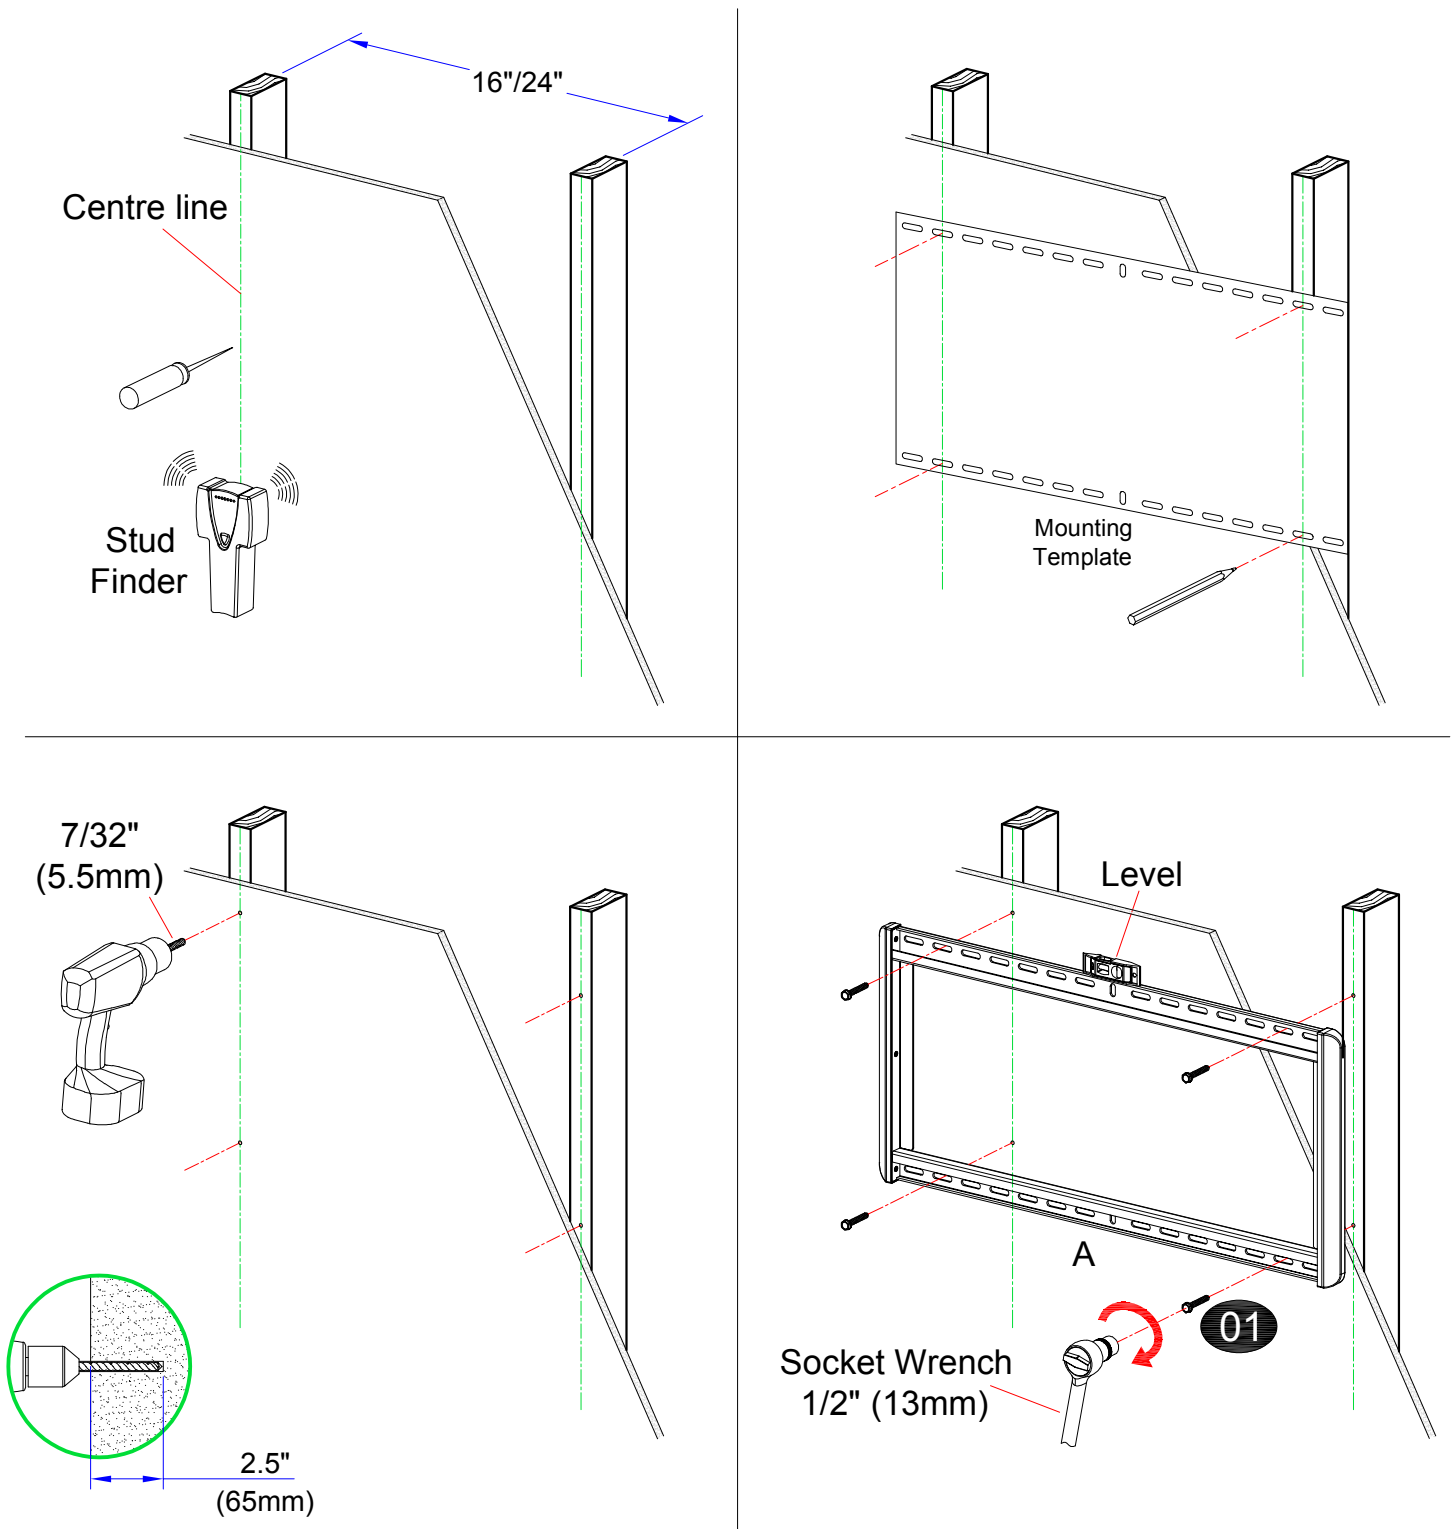

Figure 3 (keep the wall plate level)
For wood studs: Using the stud finder, locate your two wood studs. Hold the wall plate (A) against the wall at the desired position. Next, using a pencil, mark 4 hole locations. Pre-drill the 4 marked holes using a 7/32" drill bit to a depth of 2.5". Attach the wall plate (A) to the wall with lag bolts 01. (Figure 3)